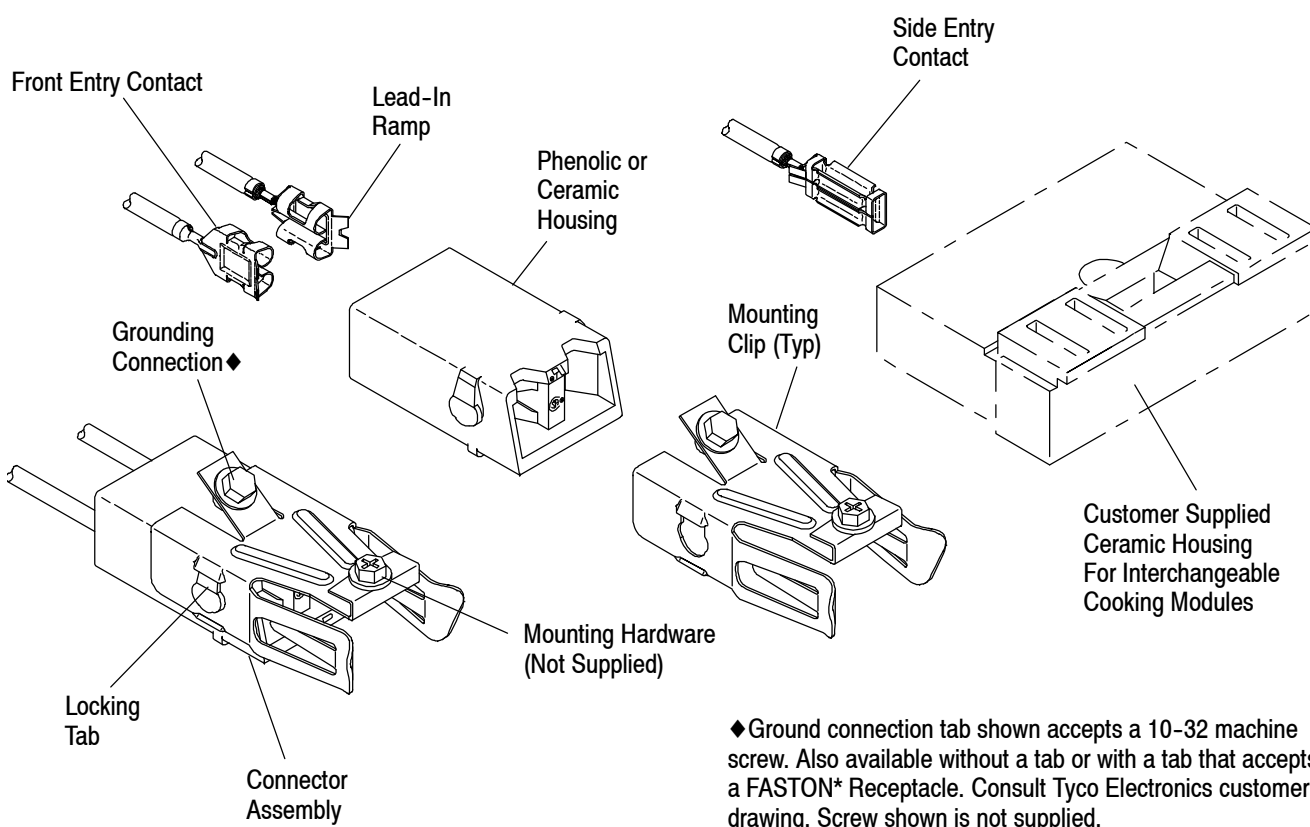

Figure 1
Figure 1 shows the product components and terms of their features. These terms will be used throughout this specification. Use these terms when corresponding with Tyco Electronics Representatives to facilitate assistance.
- Changed text in Section 1, INTRODUCTION; Paragraph 3.2, and callouts in Figures 1 and 3
- Added notes to Figures 1 and 3